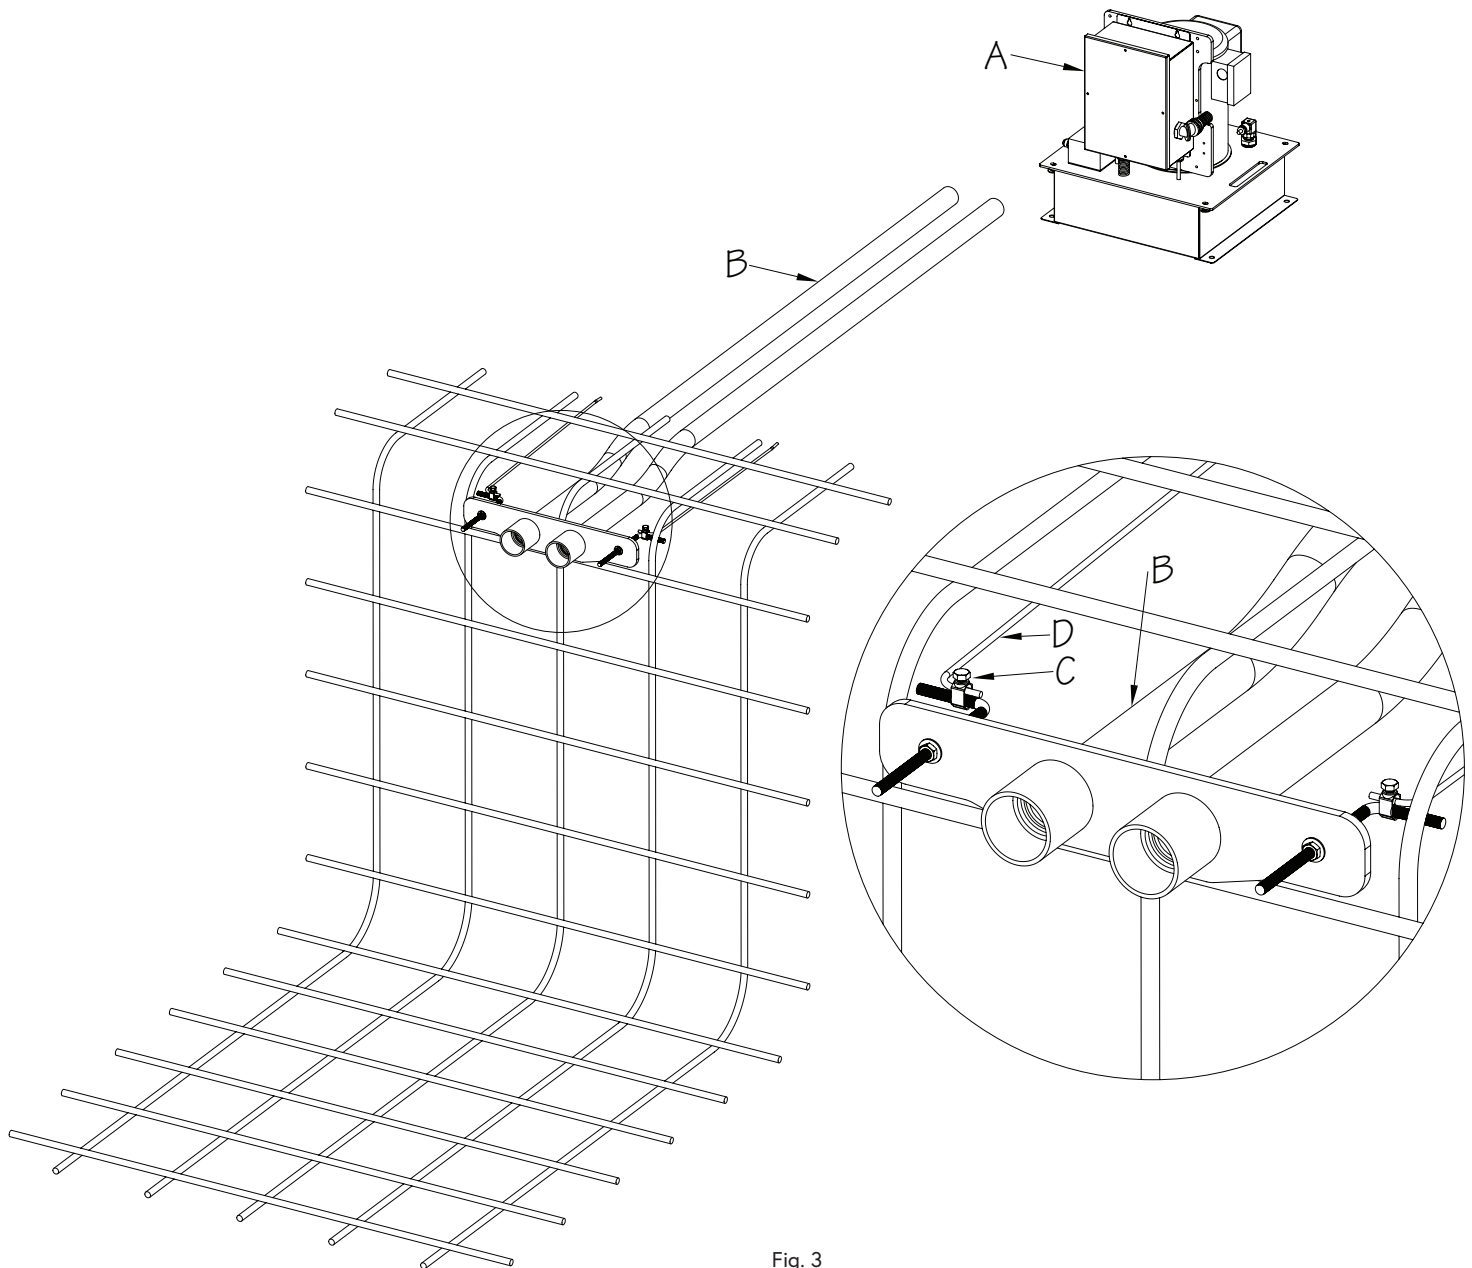

Fig. 3
2. The location of the Hydraulic Power Unit (A) should be determined at this point in the installation. Unroll the lengths of 1-1/2" (38mm) flexible PVC Pipe (B) from the back of the mounting kit to the Hydraulic Power Unit. **The conduit run MUST travel above the pool's waterline.** Any bends in the pipe **MUST** be gradual sweeps and not sharp bends to allow the hydraulic hoses to be easily fed through each conduit. Glue the PVC Pipes into the reducers on the backside of the mounting bracket (Fig. 3).
The rods attached to the mounting bracket **MUST** be tied into the pool's bonding grid. Install a Bonding Clamp (C) onto each rod. Attach a #8 Solid Copper Wire (D) to each Bonding Clamp and then run these wires to a connection that is incorporated into the pool's bonding grid. In most cases this will be a connection in the rebar (Fig. 3).